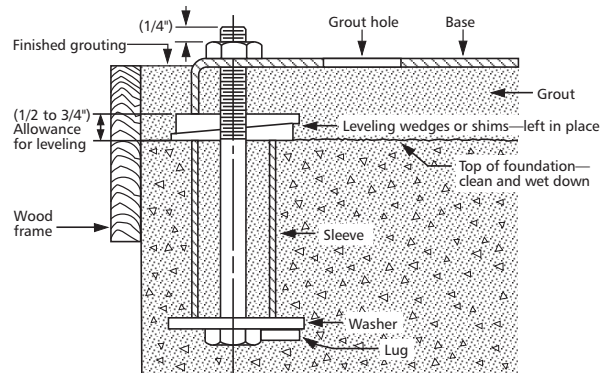

Figure 1
2.3.1. It is recommended that the bedplate be grouted to a foundation with solid footing. Refer to Fig. 1.